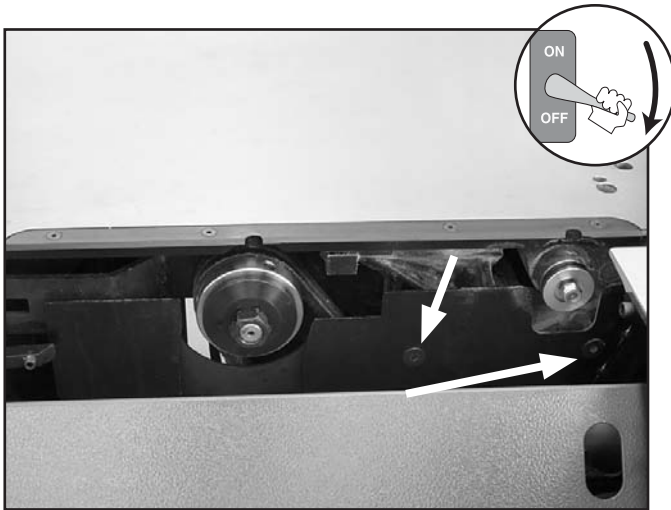

Figure 81. Lower blade guard removal.
4. Remove the screws that secure the lower blade guard (**Figure 81**) and set the guard in the bottom of the cabinet.